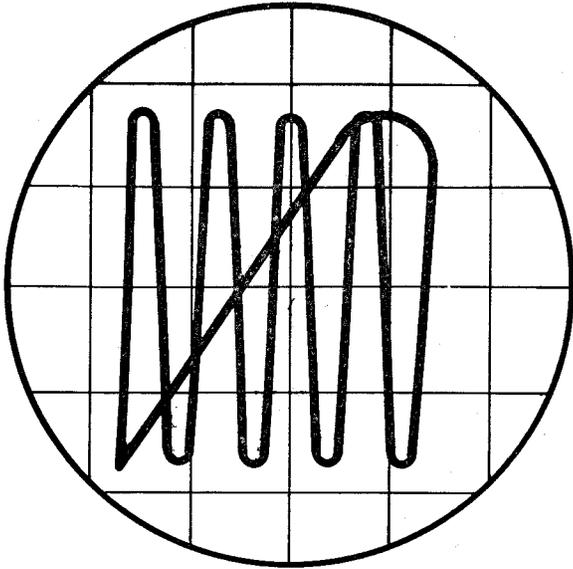
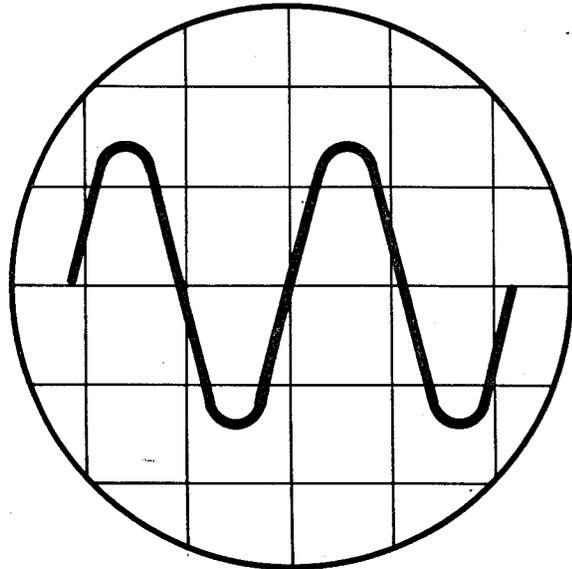

Figure 4-4
Figure 4-5
Connect the source of alternating voltage to be observed to the vertical input (AC) and one on the vertical input (AC) and one on the vertical input (AC) connections. Set the COARSE FREQUENCY control, S104, to the slowest sweep frequency, position "3-18". The SYNC. SELECTOR, S103, should be turned to "INT", while the LOCKING control, R154, is turned to the zero position. Adjust VERT. GAIN R104 and VERT. ATTEN. S101 for suitable vertical deflection. Adjust HOR. GAIN R129 until the pattern is of the desired width. When the pattern first appears it will usually show many cycles as the picture of the sine wave under observation in Figure 4-4. Slowly rotate the VERNIER-FREQUENCY, R158, until the number of cycles decreases to the desired number. If the number is still greater than convenient, then COARSE FREQUENCY S104 should be rotated to the next clockwise position and fewer cycles will appear as shown in Figure 4-5. When the desired number of cycles are obtained, the trace can be locked in by rotating the LOCKING control, R154, either clockwise or counter-clockwise, depending upon whether it is desired to lock in positive or negative synchronizing pulses.